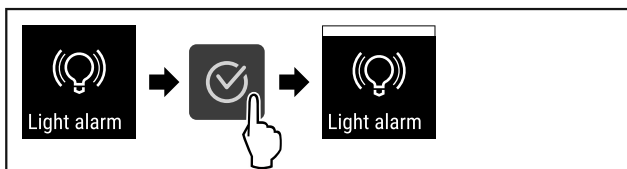

Fig. 97
- ▶ Carry out steps (see Fig. 97) .